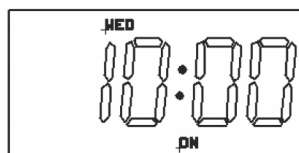

Figure B-15: ON
- ON** - Output to permanently ON and omit the program. Refer to Figure B-15.